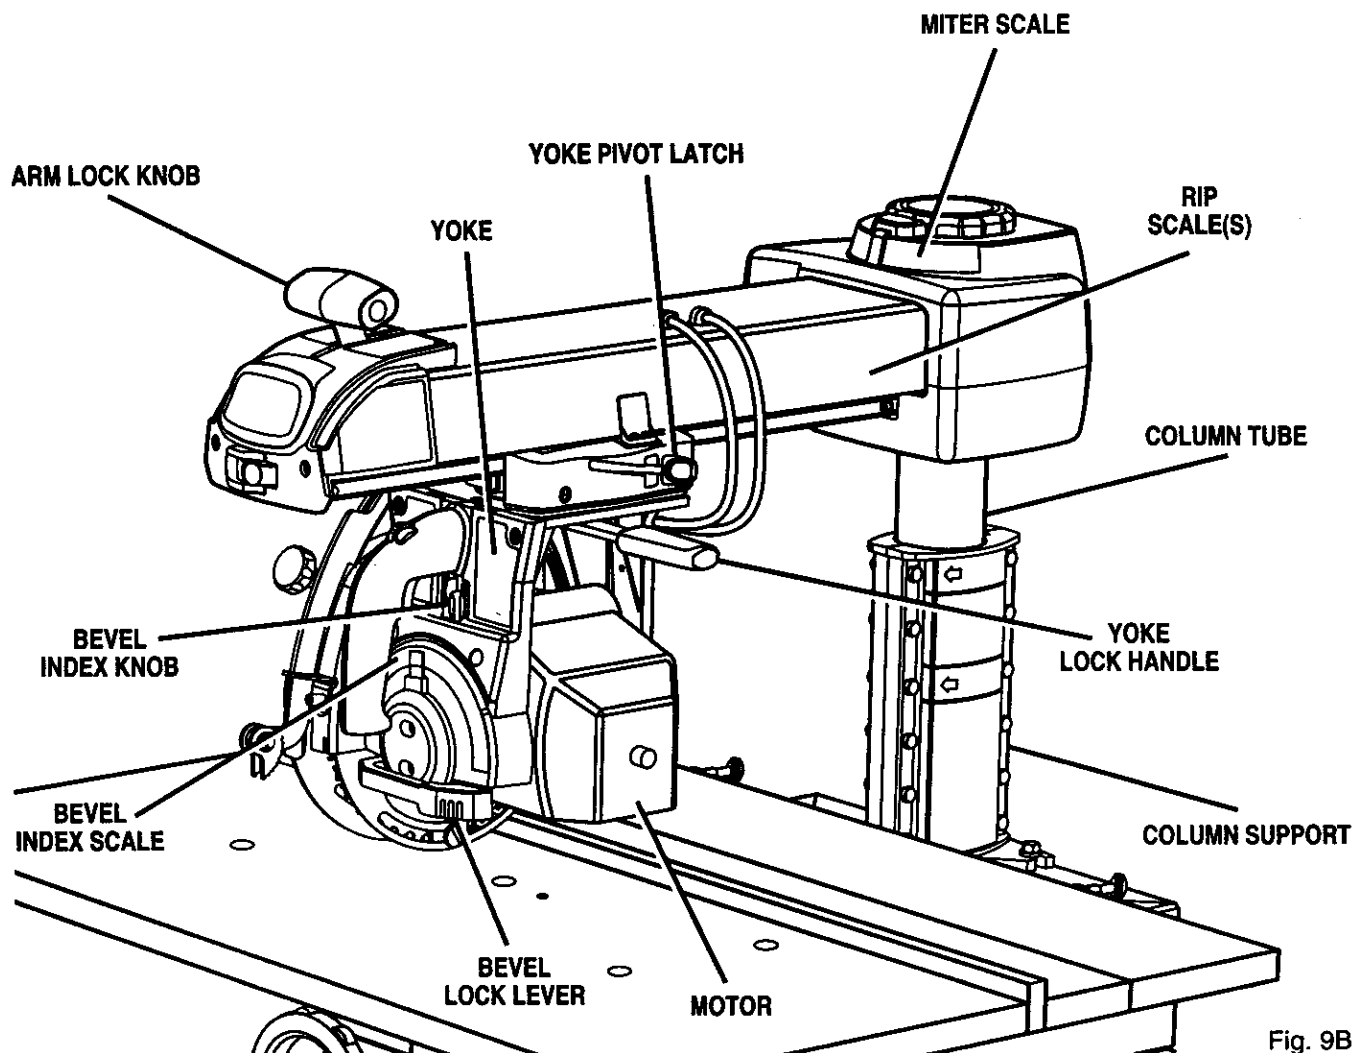

Fig. 9B
**BEVEL INDEX KNOB** - Controls the blade angle between positive stops at 0°, 45°, and 90°. Located behind the handle. See Figure 9B.
**BEVEL INDEX SCALE** - Shows the blade angle for bevel cuts and is located behind the handle. See Figure 9B.
**BEVEL LOCK LEVER** - Sets and locks blade angle. It is located below the handle. See Figure 9B.
**MITER SCALE** - Shows the miter angle setting of the arm. *See Figure 9B.*
**MOTOR (13/6.5 AMP)** - Powers the blade and is controlled by the switch and key at the front of the arm. The powerful induction motor has a capacitor start. It is mounted in the yoke and rotated with the bevel index knob and bevel lock lever. *See Figure 9B.*
**RIP SCALES** - Show the distance from the fence to the blade. (In-rip scales are on the right side of the arm, and out-rip scales are on the left side.) Upper scales show the distance with the fence beside the front table. Lower scales show the distance with the fence in farthest back position. *See Figure 9B.*
**YOKE** - Supports the blade and motor. Can be pivoted to index the blade between rip and cross cuts. Located between the carriage and the motor. *See Figure 9B.*
**YOKE PIVOT LATCH** - Indexes the yoke (after it is released) to position the blade to face right (out-rip cut), front (cross cut), or left (in-rip cut). Located on the right carriage cover. *See Figure 9B.*
**YOKE LOCK HANDLE** - Releases the yoke to allow indexing for rip cut or cross cut. Located below the yoke, on the right. *See Figure 9B.*